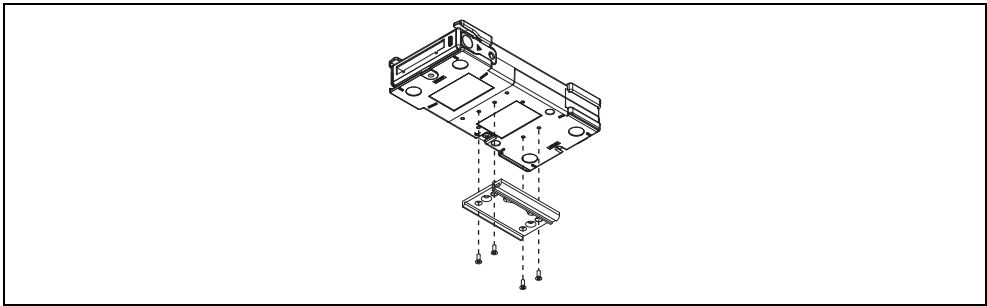

Figure 4. Attaching DIN Rail Clip to NI WLS-9000 Series Device
1. Use the #1 Phillips screwdriver and the four 4–20 Plastite® screws to attach the DIN rail clip to the NI WLS-9000 Series device, as shown in Figure 4.